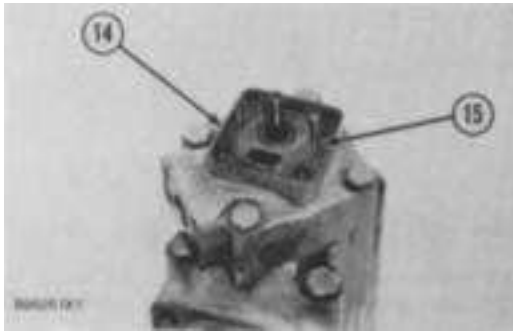

FIGURE 7-15
8. Remove the O-ring seal (15, Figure 7-15) from the adapter (14). Remove the adapter (14).